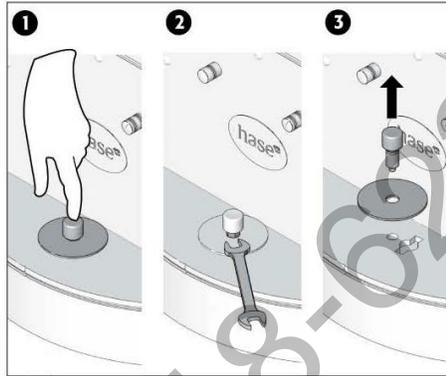

Figure 4: Remove Mounting Screw
3. Press the control lever and release. Using a 13mm wrench, remove the hex screw at the base of the control knob and washer (see fig. 4).
4. Lift the control lever and remove the hex head screw (see fig. 4).